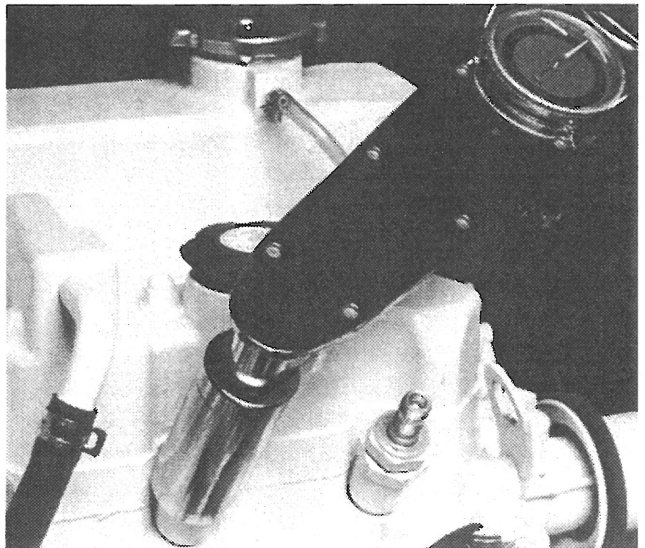

Figure 17. Reinstall Injector. Torque to Proper Tightness
- b. Screw in injector and tighten to 44-51 ft/lbs (6 to 7 Kgm) (Figure 17.)